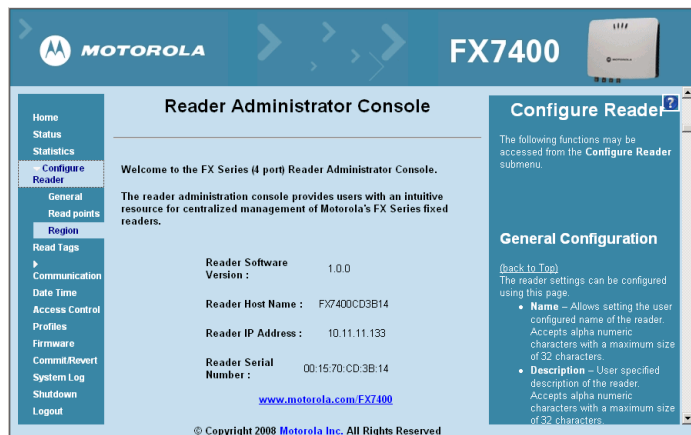

Figure 4-9 Reader Administrator Console Main Menu
7. From the **Reader Administrator Console** (see Figure 4-9 on page 4-9) select **Commit/Revert**.